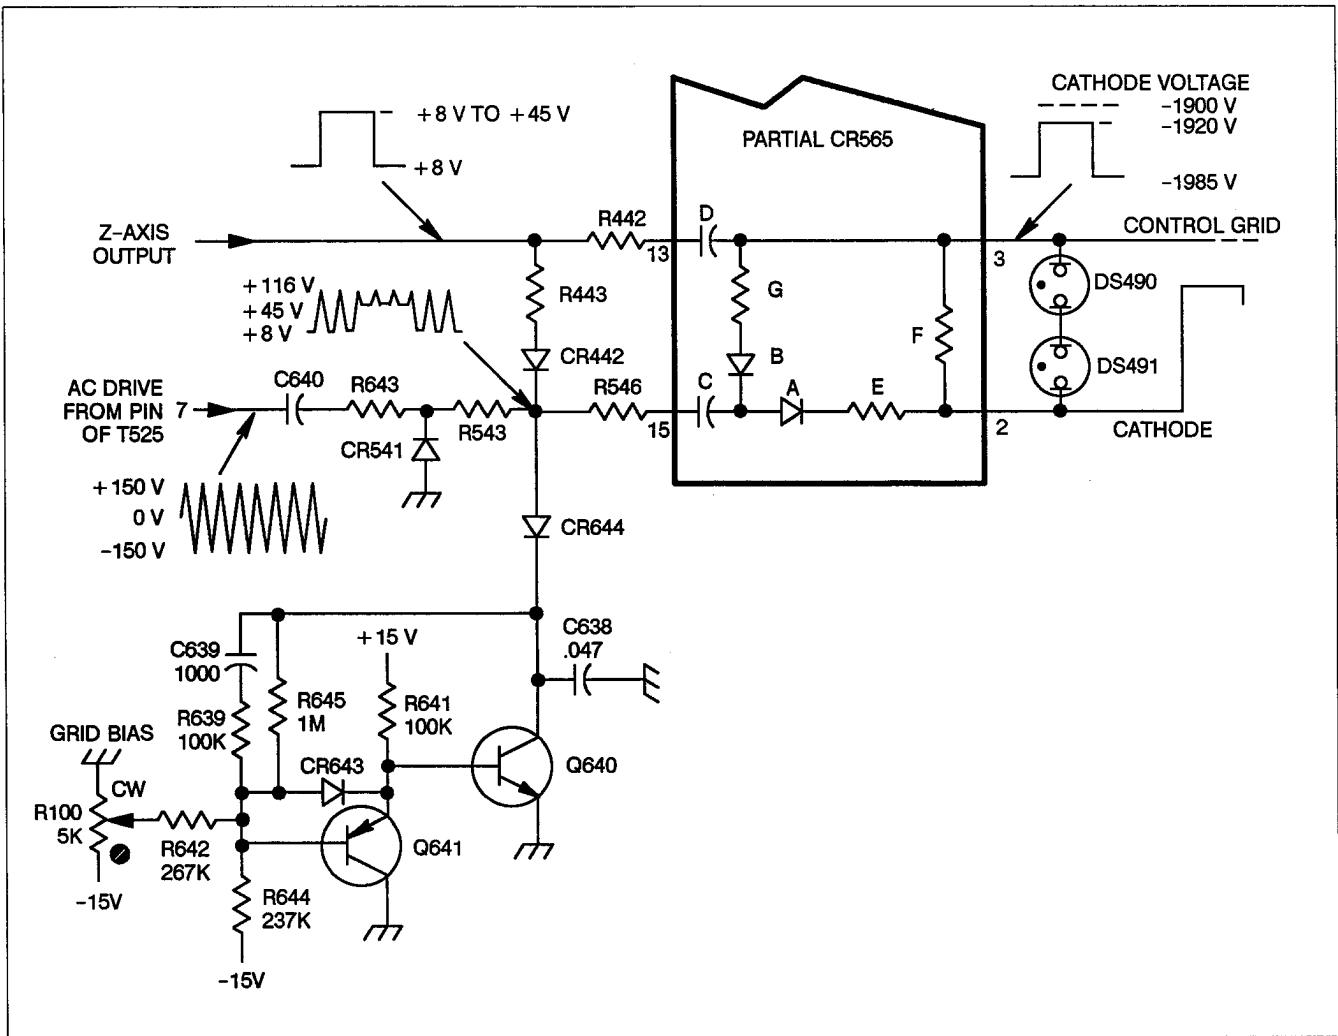

Figure 3-10. DC Restorer.
The DC Restorer provides CRT control-grid bias and couples both the DC and the low-frequency components of the Z-Axis drive signal to the CRT control grid. This circuit allows the Z-Axis Amplifier to control the display intensity by coupling the low-voltage Z-Axis drive signal (VZ) to the elevated CRT control grid potential (about -1.9 kV). Refer to Figure 3-10 for the following description.
**DC RESTORATION.** The DC Restorer circuit in the High-Voltage Module is referenced to the CRT cathode voltage via a connection within CR565. Capacitor C (labeling shown in fig. 3-10), connected to pin 15 of CR565, initially charges to a level determined by the difference between the Z-Axis signal level and the CRT cathode potential. The Z-Axis signal sets the level on the positive